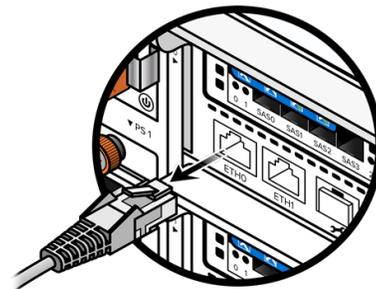

Figure 7-8. Disconnecting 1-GbE Cables
1. Attach a temporary label to the 1-GbE cables in port **ETH0** and **ETH1**. See Figure 7-8.